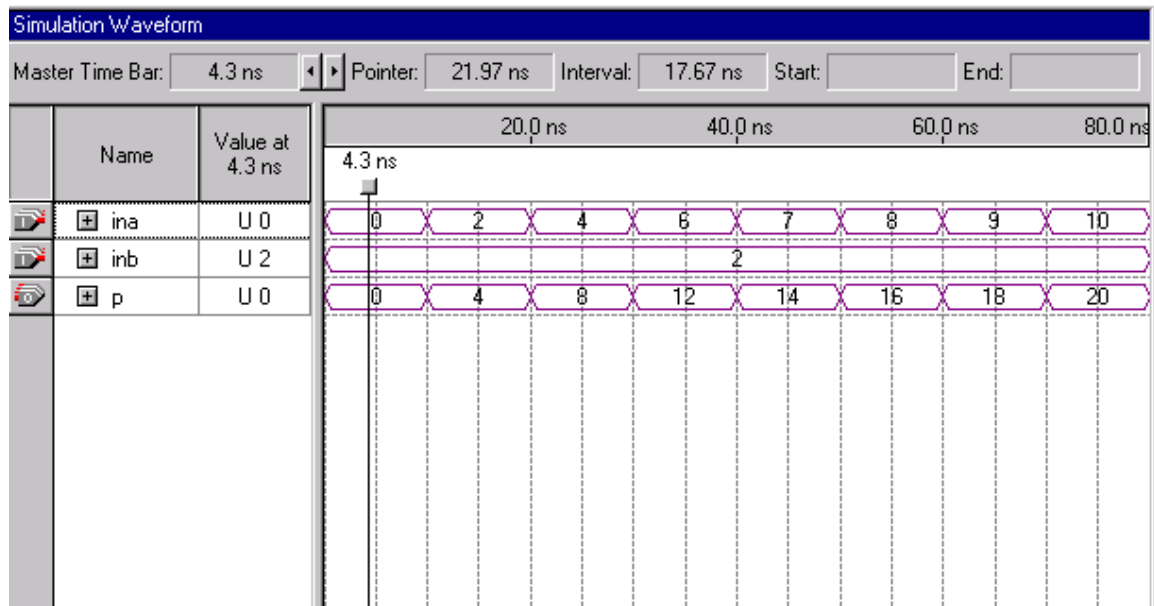

Figure 6-7.
- Check to see if you get the same results shown in Figure 6-7.